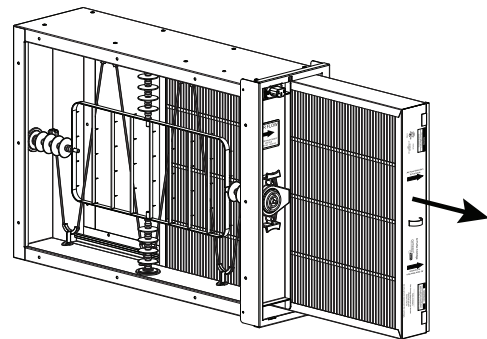

Fig. 6 - Removing Filter
3. Remove the Air Purifier cartridge and enhancement module from the Air Purifier cabinet. See Fig. 6 and 7.